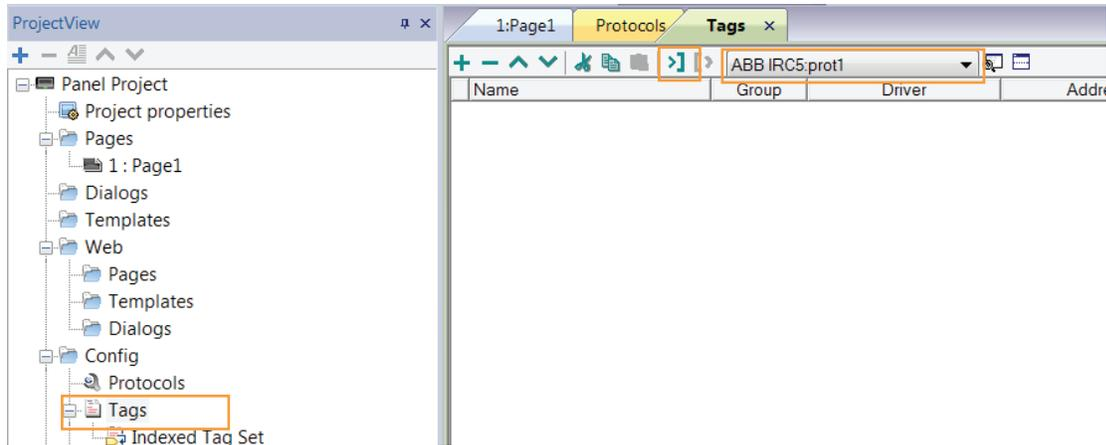

Figure 6- Import the EIO config file, which Panel Builder will use to create tags for the IRC5 protocol.
- Ensure the IRC5 protocol is selected in the dropdown at the top of the Tags tab, then click the import tags button, **>]**, as illustrated in figure 6. When prompted select the **CFG\_1.0:5:0:** importer and click **OK**.